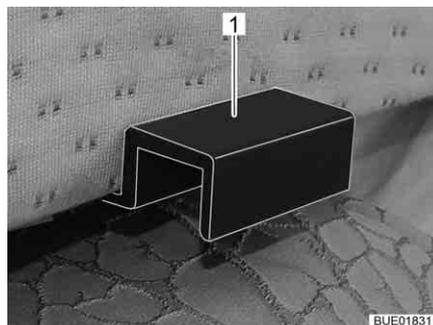

Fig. 127 Additional cushion holders
- Hook the additional cushion with the holders (Fig. 127,1) into the panels of the single beds so that a closed lying surface is created.